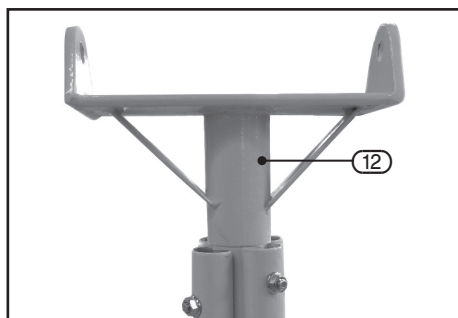

FIG.4
8.2 ADD PIVOT BRACKET – FIG. 4